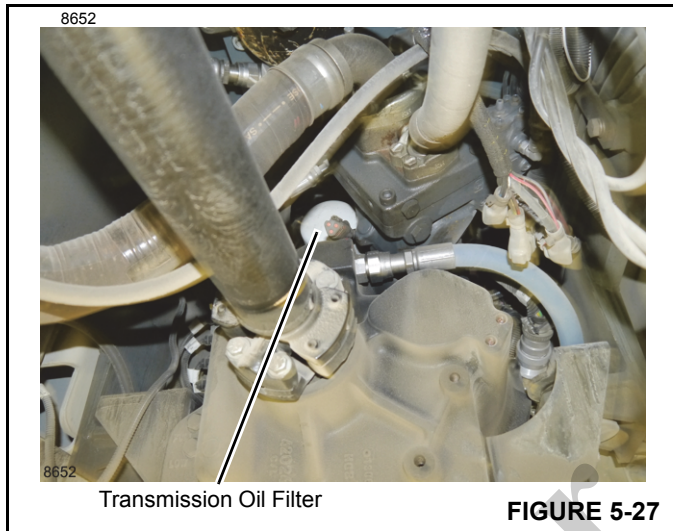

FIGURE 5-27
3. Remove the transmission oil filter by unscrewing it from the transmission housing (Figure 5-27). Properly discard the filter.